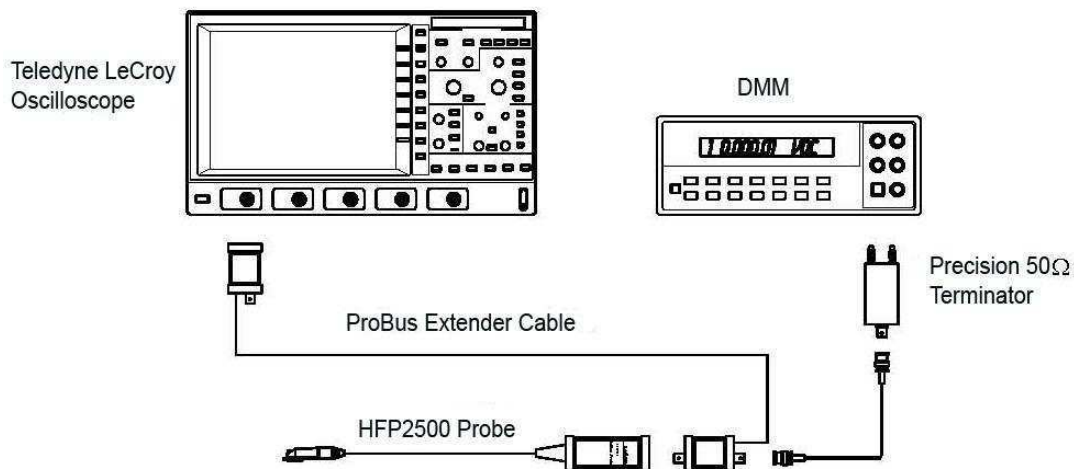

Figure 7 Output Zero Voltage Adjustment Setup
2. Connect the banana plugs of the precision 50 Ω terminator to the input of the DMM. Make sure the plug corresponding to the BNC shield (marked 'Ground') is connected to the LO or COMMON input of the DMM. Refer to Figure 7 **Output Zero Voltage Adjustment Setup** for setup information.